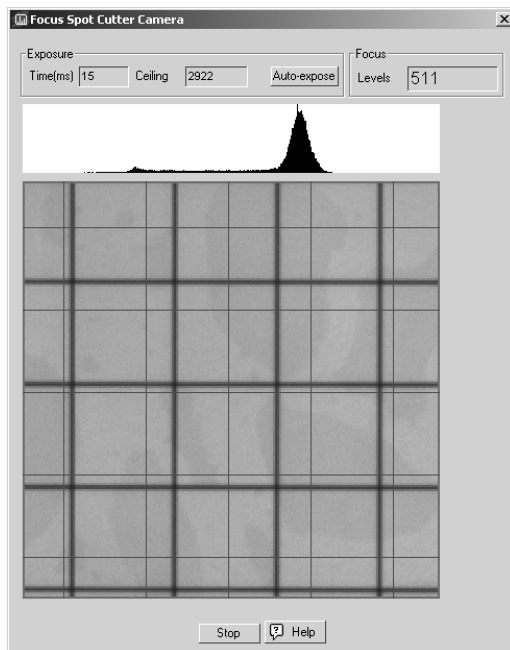

Fig. 14. Correct rotation alignment.
- Rotate the camera mount until the black and red lines are parallel. Note, the lines will not overlay exactly. See Figure 14 for an example